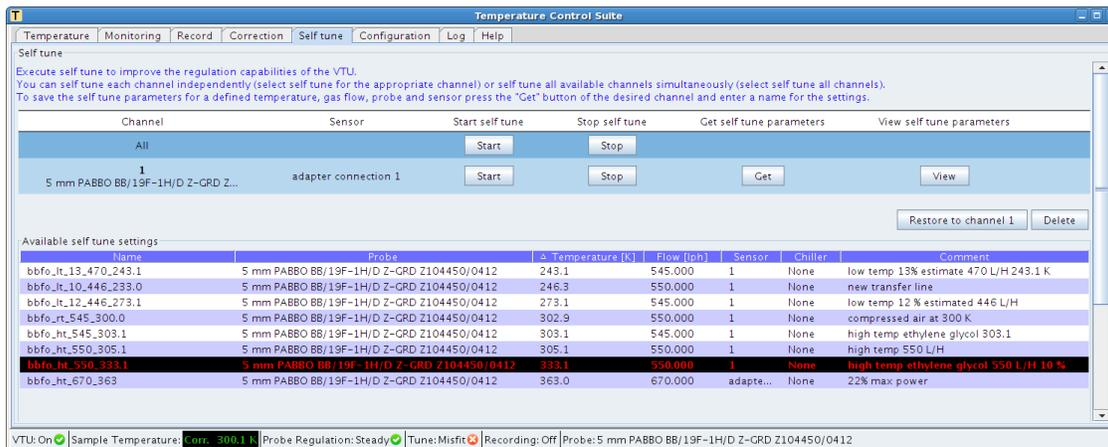

Figure 4: Selection of Appropriate Self Tune File
- Click on **Self Tune** Tab (Figure 4), select an appropriate self-tune file. In this example, we use “*bbfo_550_313K*” as the self-tune file. Click on **Restore to Channel 1** to activate the adaptive temperature regulation.
2. Click on **Self Tune** Tab of the Temperature Control Suite, select the self-tune setting file of “*bbfo_rt_545_300.0*” (see Figure 4), then click on **Restore to Channel 1** button to load the self-tune parameters.